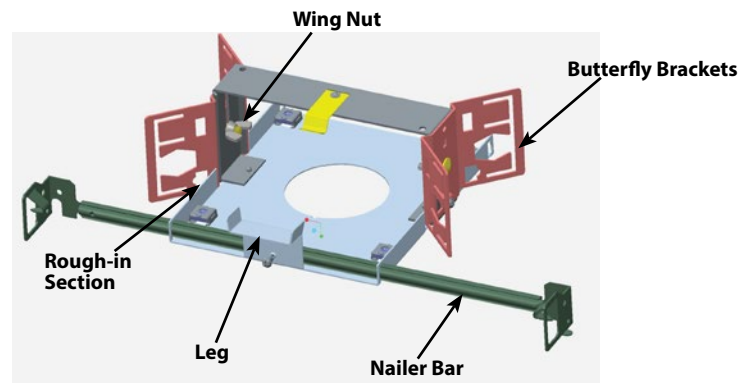

Fig: 1
3. The fixture can be mounted into max 3/4" ceiling thickness. For height adjustment, loosen the **Wing Nut** and slide the **Butterfly Bracket**. If necessary remove the **Wing Nut** and insert in screw in different hole provided on the **Butterfly Bracket**. (Fig: 1)